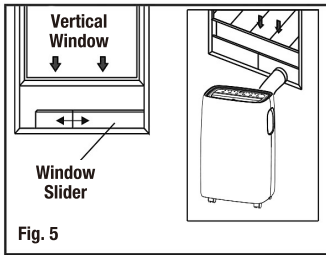

Fig. 5
4. Affix the hose outlet into the window slider kit and seal. (Fig.5 & 6).